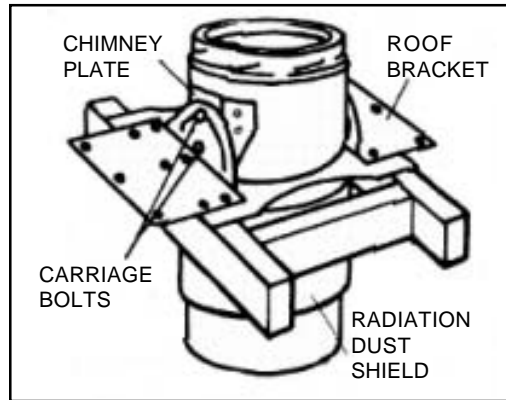
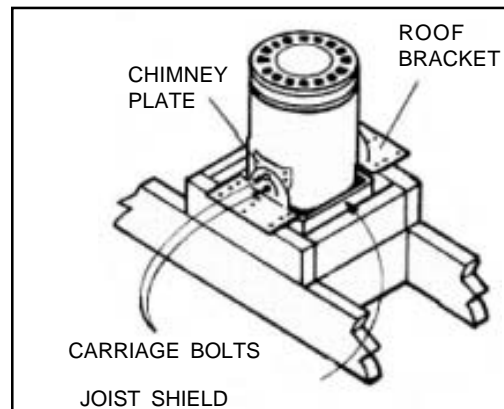

FIGURE 22a
FIGURE 22b
The CF Roof Support can be used with either the Ultra-Temp chimney (see Figure 22a) or the CF chimney (see Figure 22b). The CF Roof Support is located on top of the joists and is installed after an Intermediate Joist Shield is installed (when required). Install two (2) carriage bolts per chimney plate in the square holes. Bend the plates to suit the curve of the chimney. Using the plate as a template drill 3/32" holes in the casing. Attach the plates using the stainless sheet metal screws provided. Attach the Roof Brackets to the chimney plates using the installed carriage bolts. Set the assembly into position and adjust and tighten the carriage bolts. Screw the plate to the joist using the (6) large wood screws per bracket.